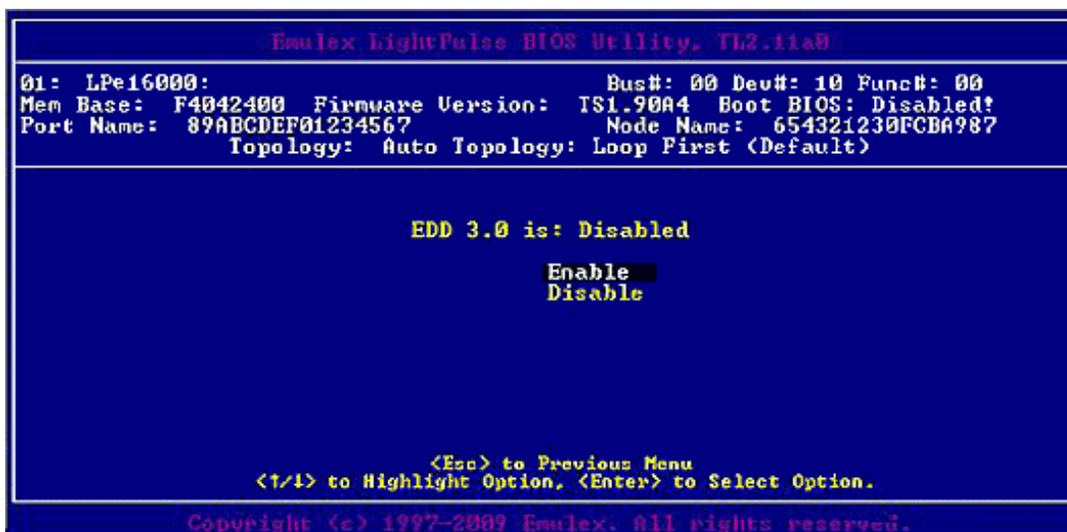

Figure 4-15 Enable or Disable EDD 3.0 Screen
2. Select **Enable or Disable EDD 3.0**. The Enable or Disable EDD 3.0 screen (Figure 4-15 on page 38) is displayed.